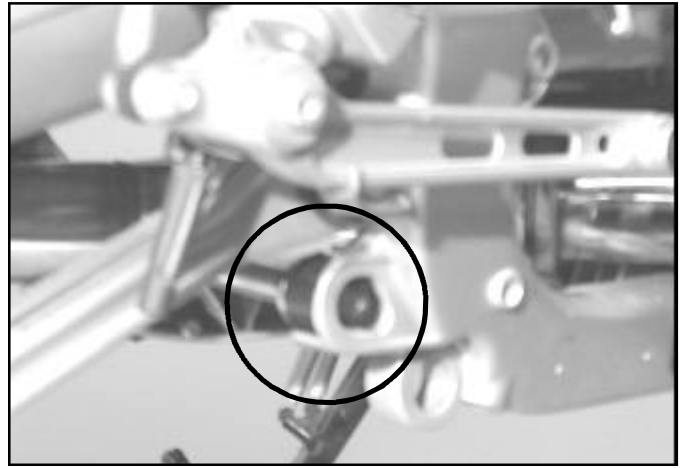

Figure 11
12. Push the Exhaust System fully forward onto the mounts. Figure 11.